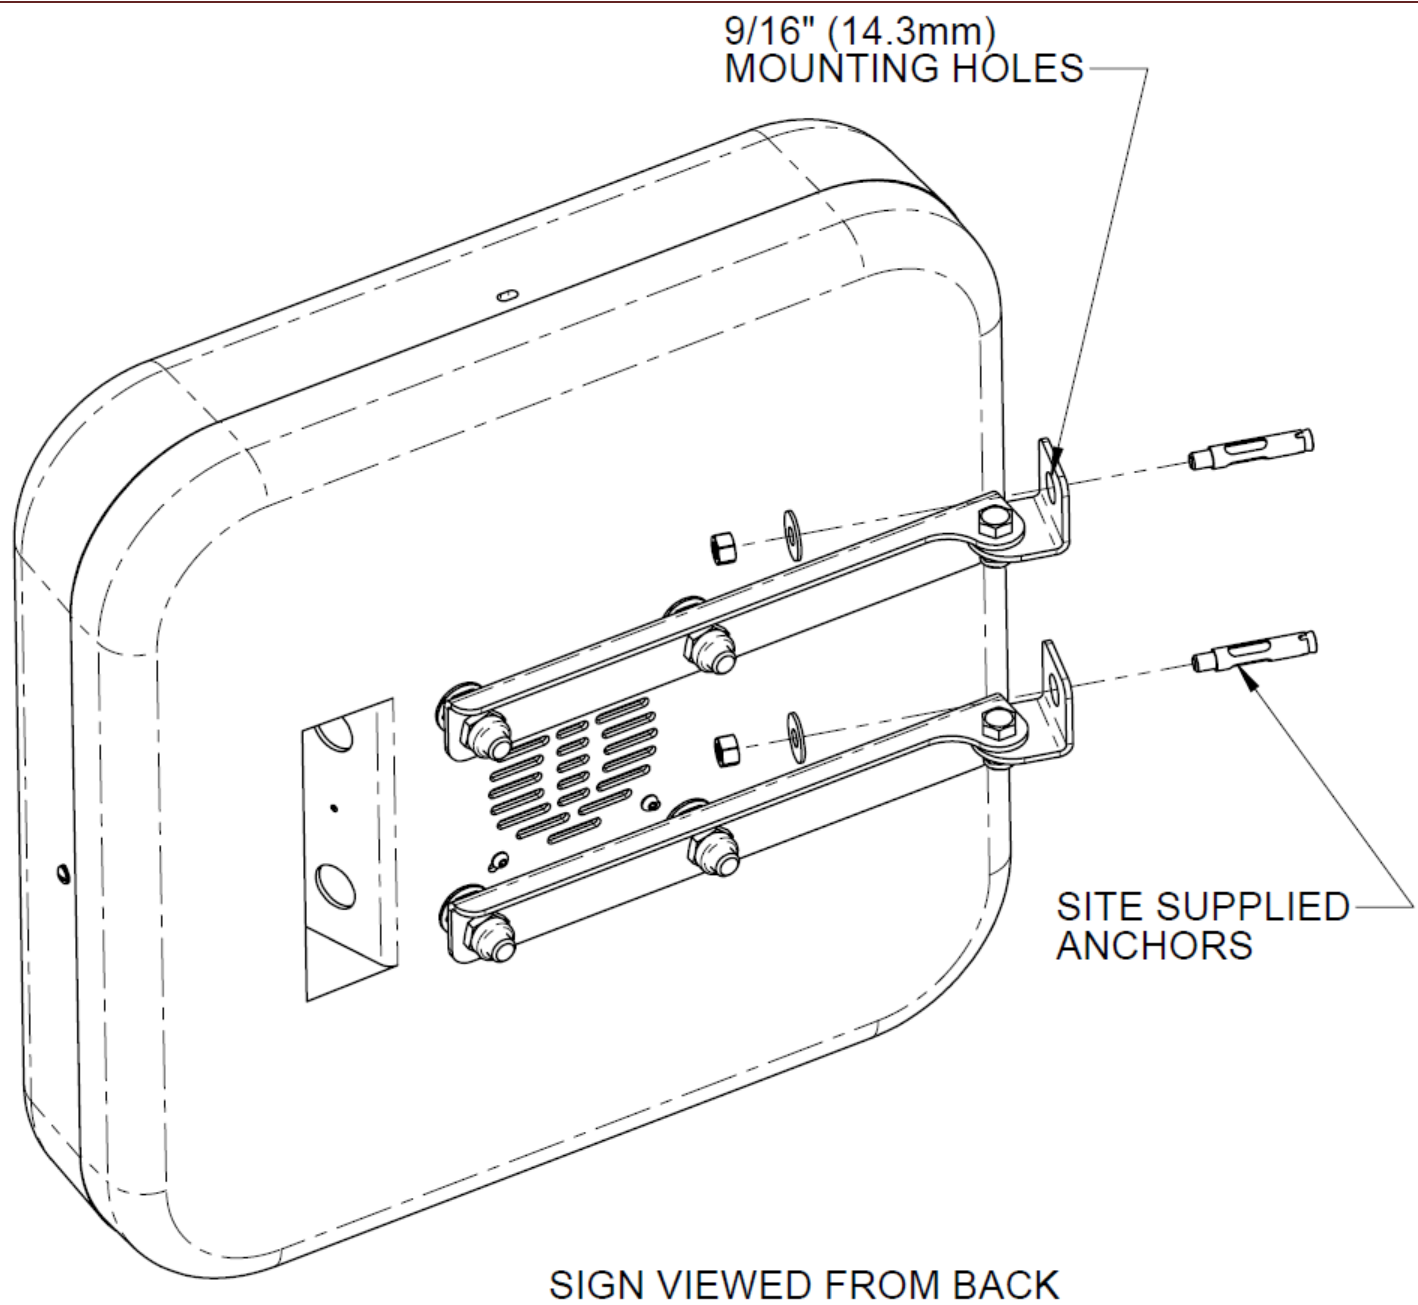

Figure 179 - Wall Mounting the In-Bay Sign
- Mounting the sign to the wash bay wall requires two installer-supplied fasteners to secure the sign to the wall. Use the appropriate fasteners for the wall material. Mount sign securely to the wall, Figure 179.
- Mounting the sign to the wash bay wall requires two installer-supplied fasteners to secure the sign to the wall. Use the appropriate fasteners for the wall material similar to Figure 179. Mount the sign securely to the wall.